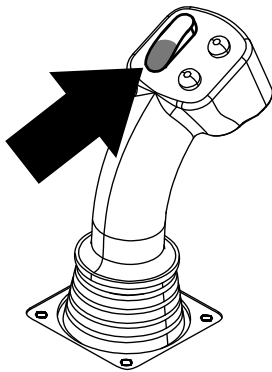

Figure 38
11. Hold the lower section of the rocker switch (Figure 38) until the arms retract and the cam assembly returns to the home position (row 3) (Figure 39).